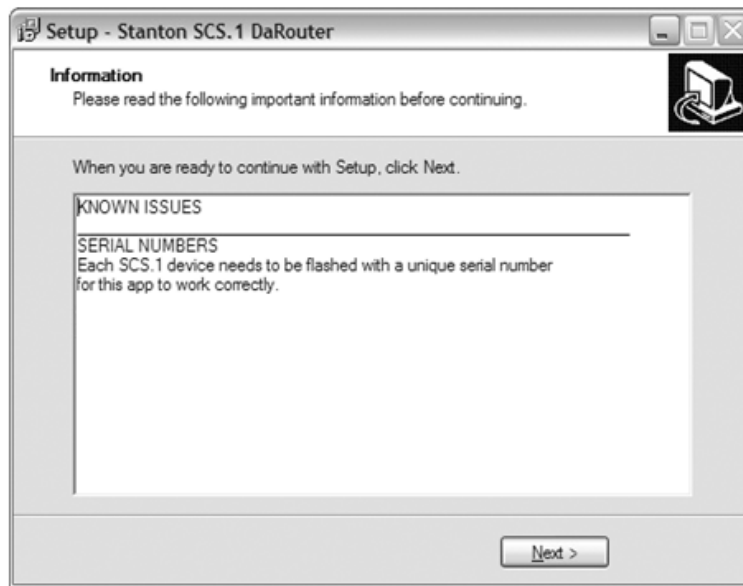

Figure 4.11
11. Read information regarding this build of the installer then click **Next**. (Figure 4.11)